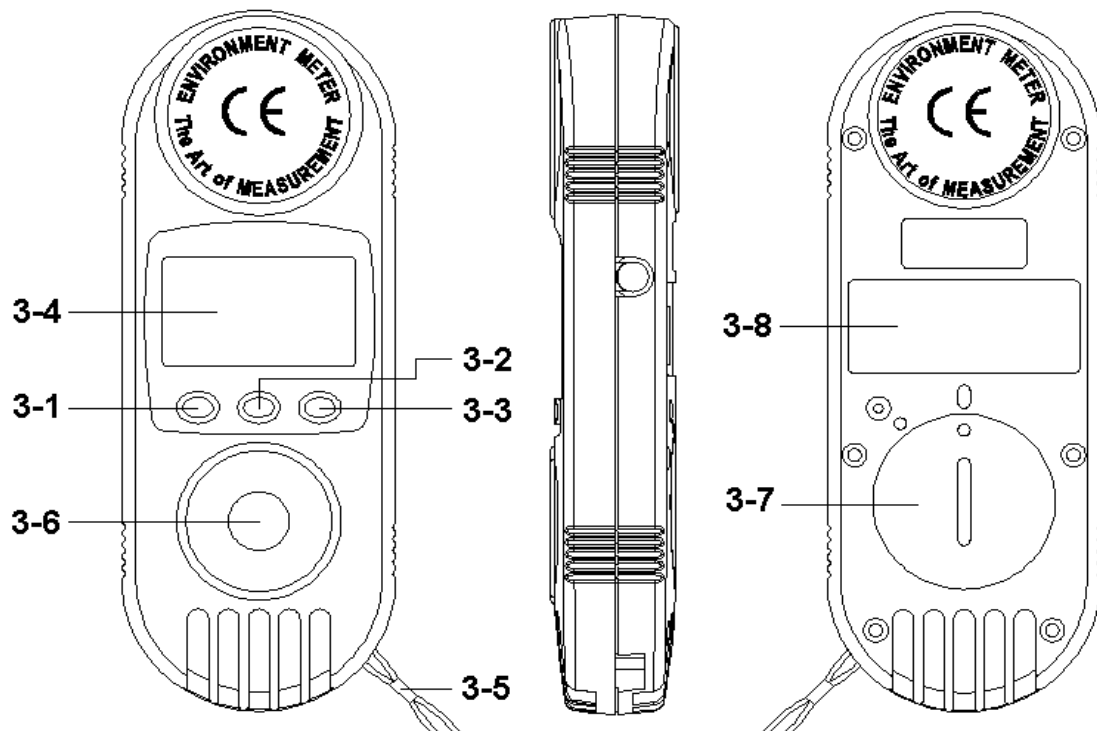

Fig. 1
2) Position the " UV Light Sensor " (3-6, Fig. 1) directly under the UV light source, the " Display " (3-4, Fig. 1) will show the UV light value with auto range measurement. If the measuring value over 20 mW/cm², the " Display " will show " - - - - ".
For the convenient measurement, if intend to reverse the Display direction, just press the " Hold button " (3-1, Fig. 1) once, then press the " Power button " (3-2 , Fig. 1) once, the Display direction will be reversed automatically.
* *After reserve the Display direction already, press the " Hold button " (3-1, Fig. 1) once, then press the " Power button " (3-2 , Fig. 1) once again, the Display direction will back to the original normal direction again.*
- 2) Open the " Battery Compartment / Cover " (3-7, Fig. 1) and remove the battery.